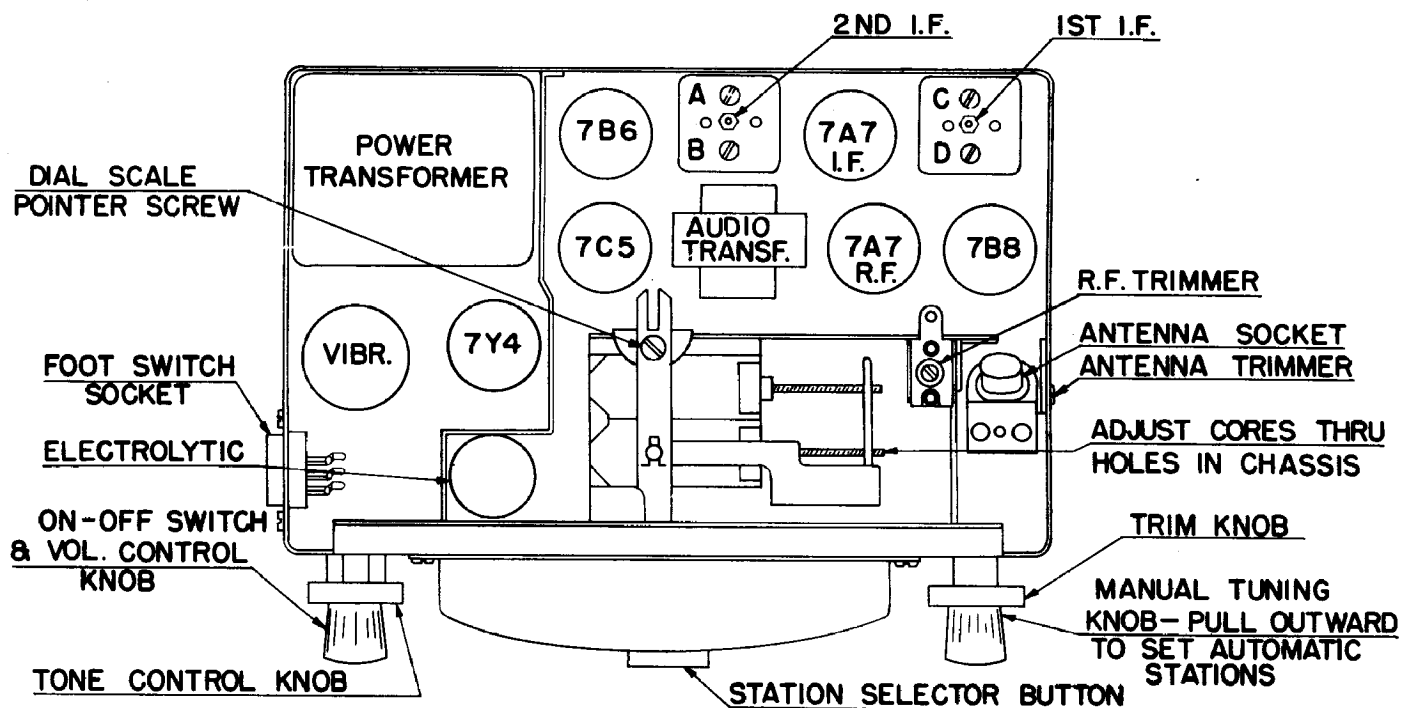
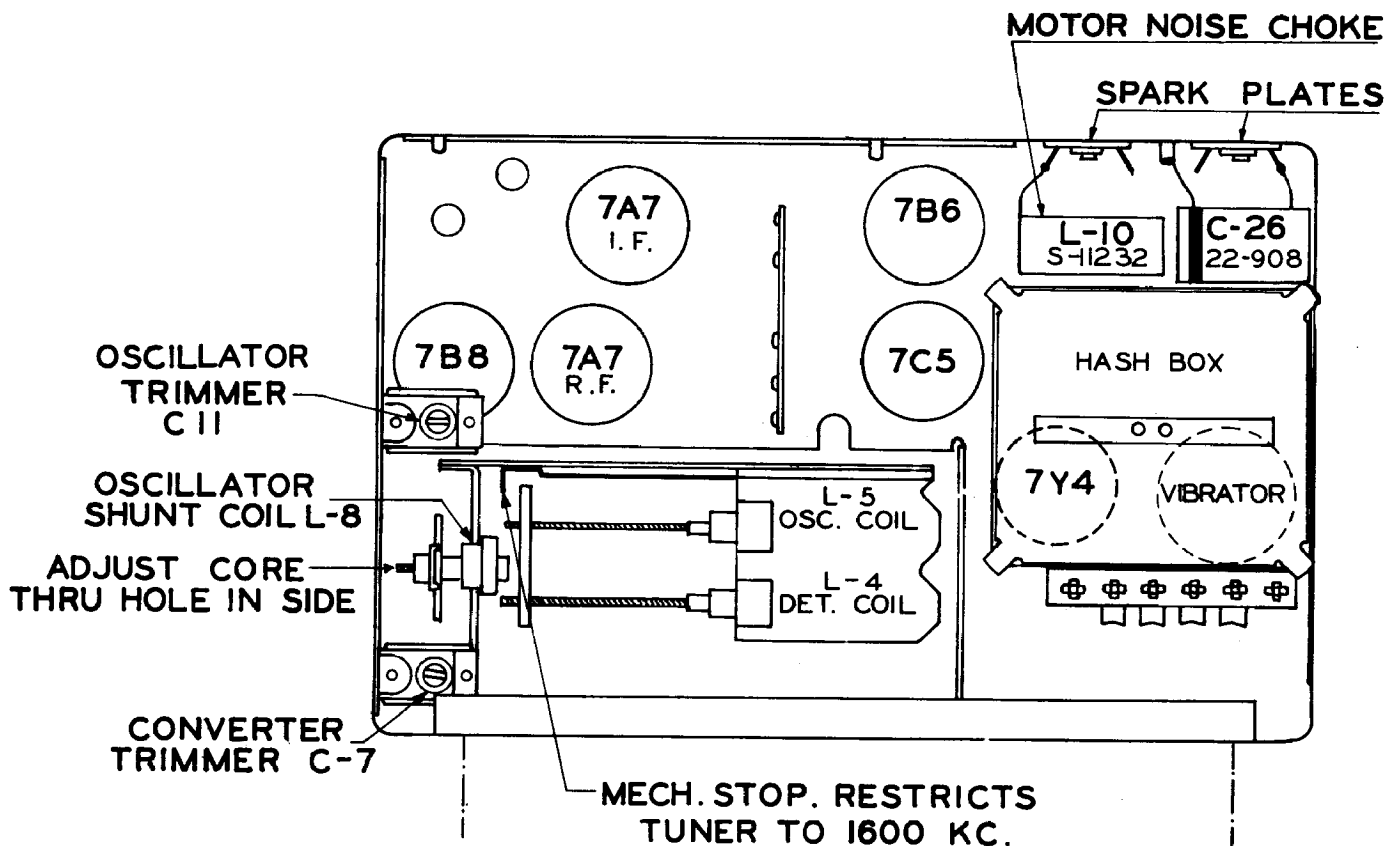

Fig. 7. Top View of Chassis
Fig. 8. Bottom View of Chassis
- 4—Adjust I.F. trimmers, A, B, C and D (Fig. 7) in the order named for maximum output. Repeat the operation to assure accurate alignment.
- 4—Adjust oscillator trimmer C-11 (Fig. 8) for maximum response.
- 7—Adjust converter trimmer C-7 (Fig. 8) and R.F. trimmer C-3 (Fig. 7) for maximum response.
- 6—Adjust oscillator trimmer C-11 (Fig. 8) at 1700 Kc.
- 7—Adjust converter trimmer C-7, R.F. trimmer C-3, and antenna trimmer C-1 (Fig. 7 and 8) for maximum output reading.
- 10—Adjust oscillator core L-5 (Fig. 8) to scale at 1200 Kc.
- 11—Adjust the antenna core, R.F. core, and converter core (Fig. 7 and 8) for maximum output reading.
- 13—"Rock in" shunt oscillator coil L-8 (Fig. 8) for maximum output reading. This should be done only as a last resort. This is the same as rocking in the padder condenser on a ganged condenser receiver.